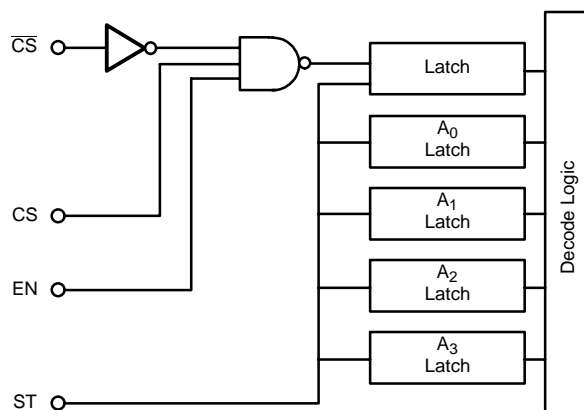

FIGURE 11. \overline{CS} , CS, EN, ST Control Logic
All four address inputs have on-chip data latches which are controlled by the Strobe (ST) input. These latches are transparent when Strobe is high but they maintain the chosen address when Strobe goes low. To facilitate easy microprocessor control in large matrices a choice of three independent logic inputs (EN, CS and \overline{CS}) are provided on chip. These inputs are gated together (see Figure 11) and only when $EN = CS = 1$ and $\overline{CS} = 0$ can an output switch be selected. This necessary logic condition is then latched-in when Strobe (ST) goes low.